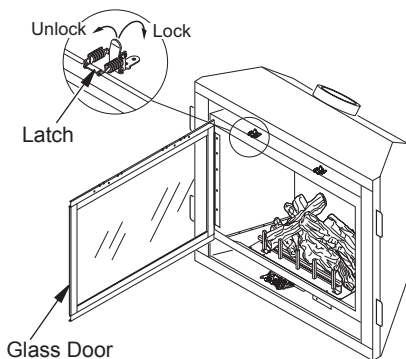

Figure 3 - Opening Glass Door [(V)TC36 Series Model Shown]
2. Lift up on latches of door to unlock. There are two on top of firebox and two below firebox that hold glass door in place (see Figure 3).